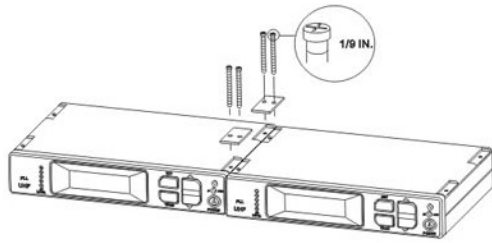

FIGURE 31
2. Place the supplied straddle bars in the recesses on the top and bottom of the receivers, so that bars overlap both receivers. Refer to Figure 31.